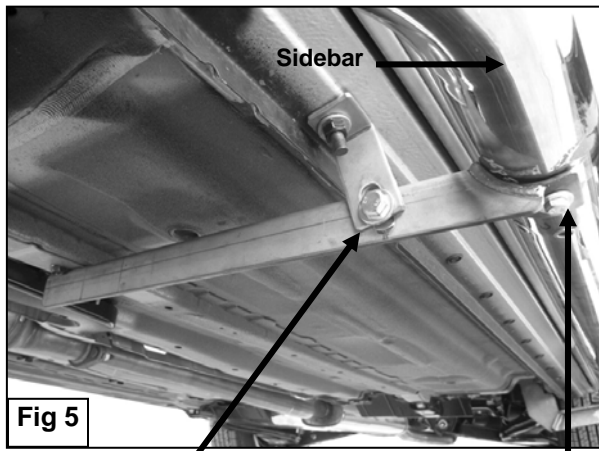

**Fig 2**
3. Loosely attach driver side Support Bracket to already inserted Bolt Plate using the included (1) 10mm Lock Washer, (1) 10mm Flat Washer, and (1) 10mm Hex Nut (**Figure 2**).